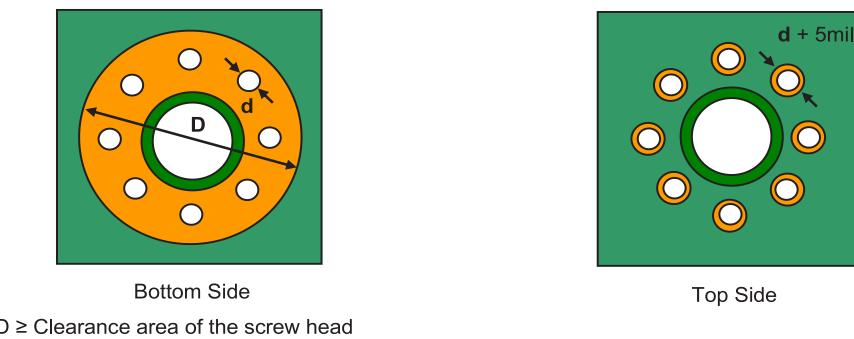

Figure 19: Type A mechanical hole solder mask opening.
- [36] The solder mask openings for Type A wave soldered holes should satisfy Figure 19.